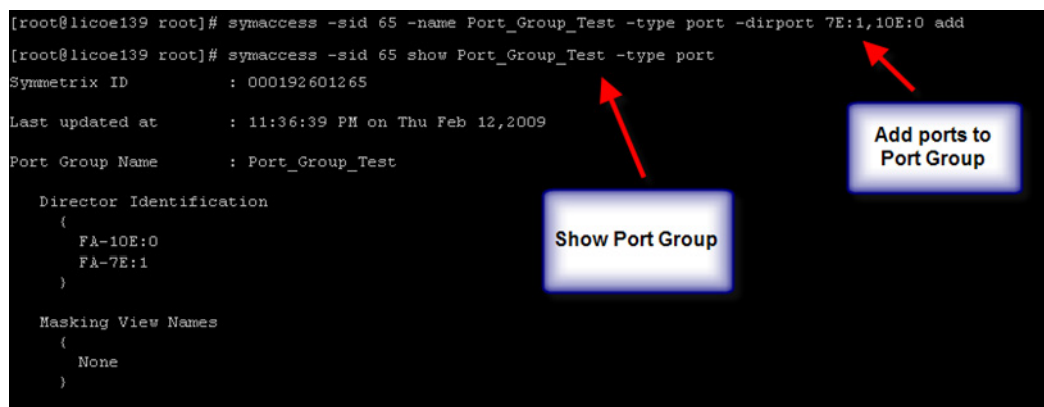

Figure 19. Adding ports to the port group
6. The port group, Port_Group_Test, can then be populated with the appropriate front-end ports. The procedure to add ports 7E:1 and 10E:0 to port group “Port_Group_Test” is shown in Figure 19.